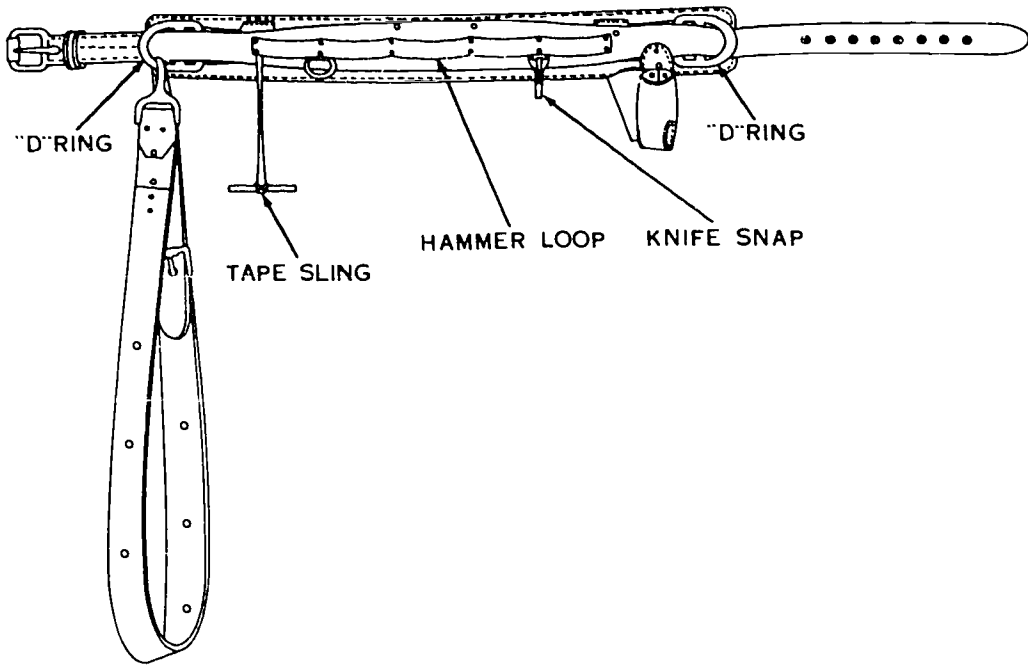

Figure 1-18. Lineman's body belt with safety strap.
e. Lineman's Body Belt. The belt and safety strap illustrated in figure 1-18 are made of high grade leather. Note that the safety strap is carried with the metal snaps hooked to the left side D-ring. Additional devices on the belt are the tape sling, the tool loops, knife snap, and the buckle. Safety straps are adjustable to 60- through 90-inch lengths.